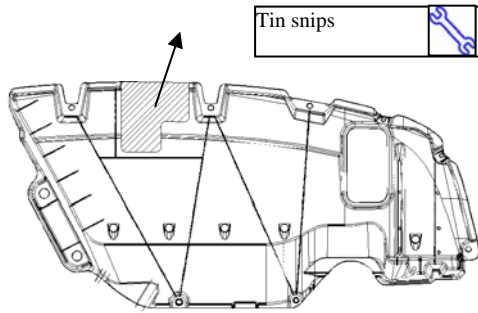

Fig. 10-1
- (a) Locate scribe line on inside surface of part. Scribe perimeter shown as hatched area. (Fig 10-1)